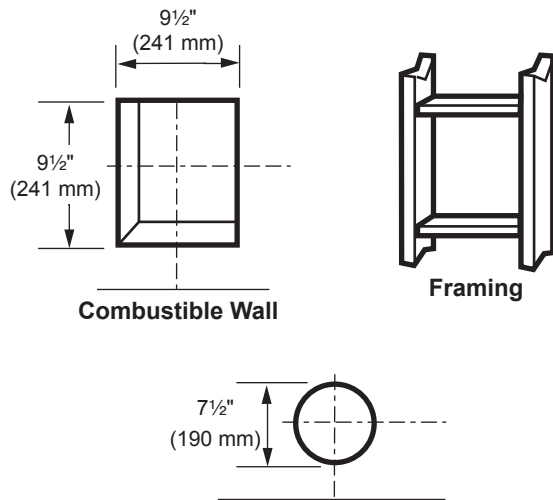

Figure 26 - Exterior Wall Framing Dimensions for 4 x 6^{5/8}" or 4"x7" Venting
- Combustible Exterior Walls:** Cut a 9½"H x 9½"W (241 x 241 mm) square hole through the exterior wall frame. *Figure 26*
2. The center of the hole should align with the center line of the horizontal rigid vent pipe end. Allow ¼" minimum rise per foot. *Figure 26*